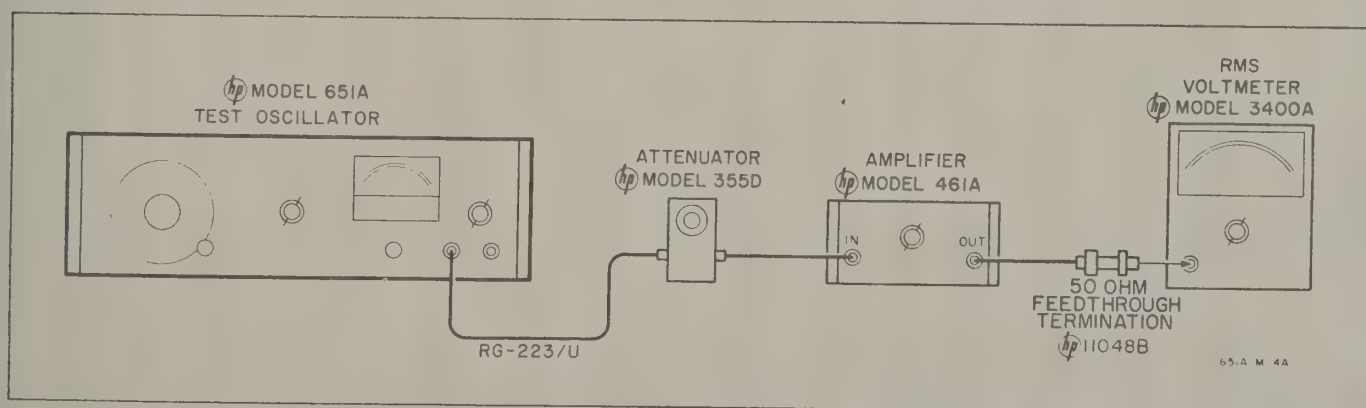

Figure 5-5. Attenuation Check
- a. Connect Model 651A as shown in Figure 5-5. Use a Model 355D Attenuator with a known accuracy (within ± 0.02 db). Use a short (6 - 12 inches) RG-223/U cable between Test Oscillator and Attenuator. Use short cables (6 - 12 inches) between Attenuator, Amplifier, and RMS Voltmeter.
- j. Check Option 02 Attenuation by adding a two resistor (43.2 ohm and 86.6 ohm) impedance converter across the 75 Ω output connector. Connect the 43.2 ohm resistor to A3R14 and the 86.6 ohm resistor to ground. Use test set-up in Figure 5-5 with the Model 355D connected across the 86.6 ohm resistor.